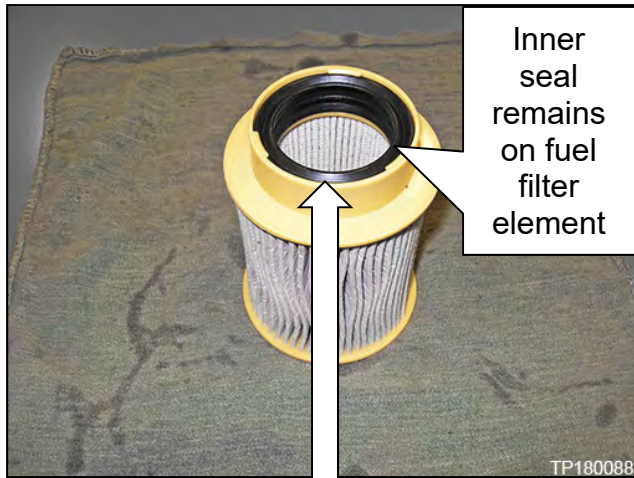

Figure 18
- Stage 2 fuel filter element seal (at bottom of element) is not damaged (seal can be damaged if element is installed incorrectly). (See Figure 18 on page 9).